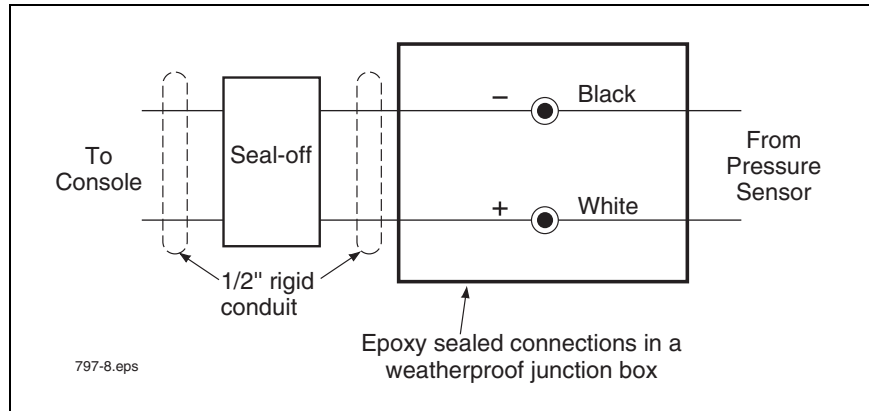

Figure 7. Field wiring Pressure Sensor - Observe Polarity
11. Route the cable from Pressure Sensor to the Pressure Sensor junction box in the dispenser. Observing polarity, connect the sensor wiring to the field wiring from console and cap with wire nuts (see Figure 7) - OR - terminate the wiring in the TLS RF transmitter (W2). In wireless installations, the wiring is not sealed and does not run back to the TLS console and Steps 12, 13 and 14 ARE NOT REQUIRED.
6. Install one 68CA-4-4 male connector (item 5 in Table 2) into the center port of the 3-way calibration valve, and then directly attach it to the pressure sensor inlet port (see Figure 7).